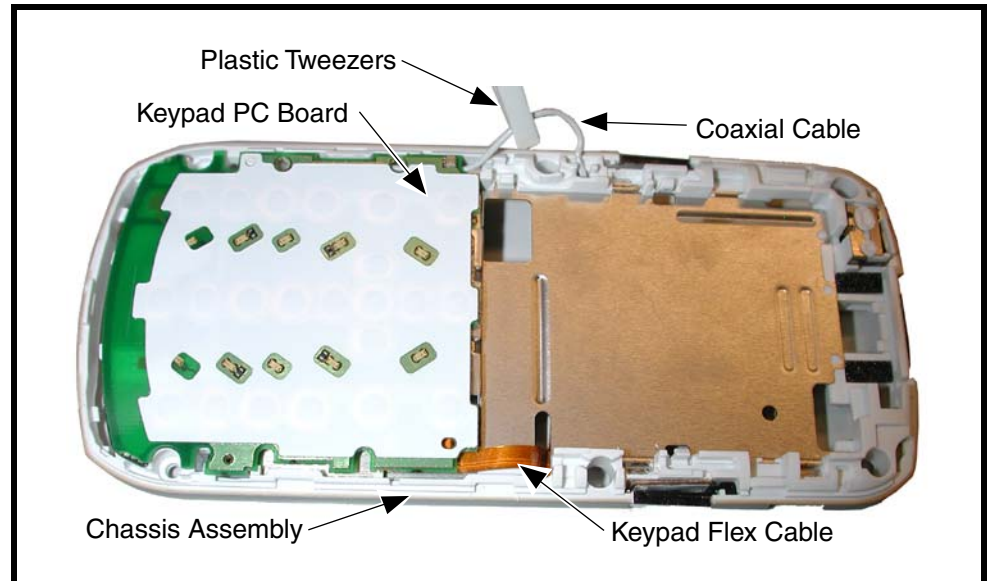

Figure 20. Removing and Replacing the Keypad PC Board
2. Use the plastic tweezers to remove the end of the coaxial cable from the chassis assembly (see Figure 20).